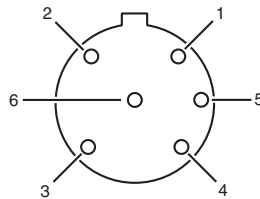

Figure 2-6. Agilent 8120-1082 Power Sensor Cable End View
- 2 Set the Agilent 34401A Digital Multimeter to measure resistance, and connect the DVM test prods between the center pin of the V_{RF} connector on the Agilent 432A Power Meter rear panel and pin 1 on the thermistor-mount end of the Agilent 8120-1082 Power Sensor Cable (see Figure 2-6 to locate pin 1).